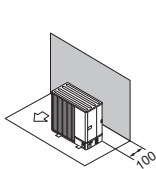

Fig. 2-6
- (1) Obstruction or closed surface at rear only (Fig. 2-6)